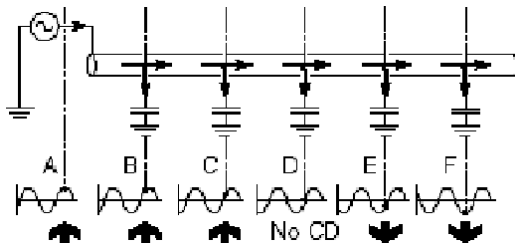

Figure 10.2: CD reset
Figure 10.2 illustrates a buried line with significant capacitance to ground. It illustrates the gradual phase-shift that occurs along the line. The diagram shows a reference point on each waveform. At first, the reference point occurs right on the Peak of a positive half cycle (A). It gradually moves towards the zero crossing point (D) and ends up on the Peak of a negative half cycle (F). The direction has shifted from forwards to backwards. At the intermediate point (D) the current flow cannot be determined. At this point the CD arrows on the RD8100 locator will flash on and off. In the example shown in the illustration, by returning to (C) which is the last point at which a CD reading was achieved, and performing a CD reset, the response at (C) will be equivalent to that of (A).